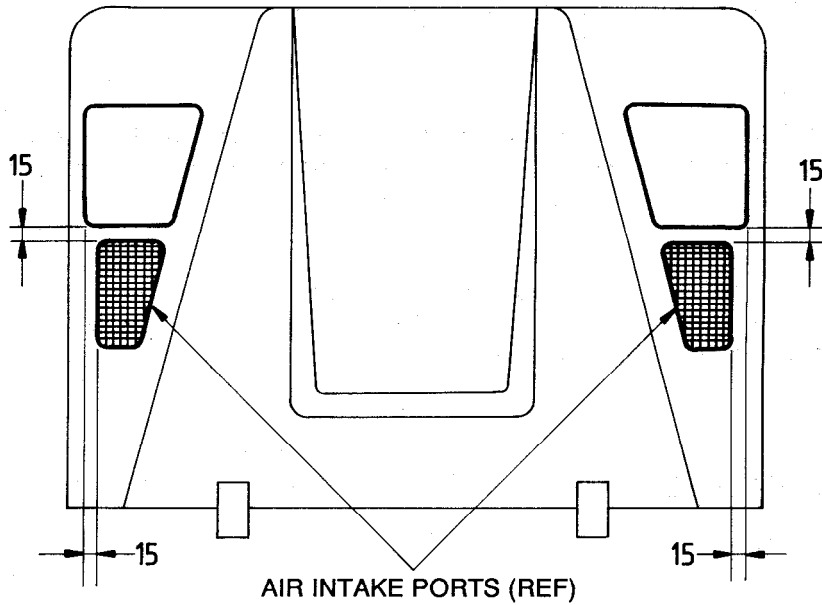
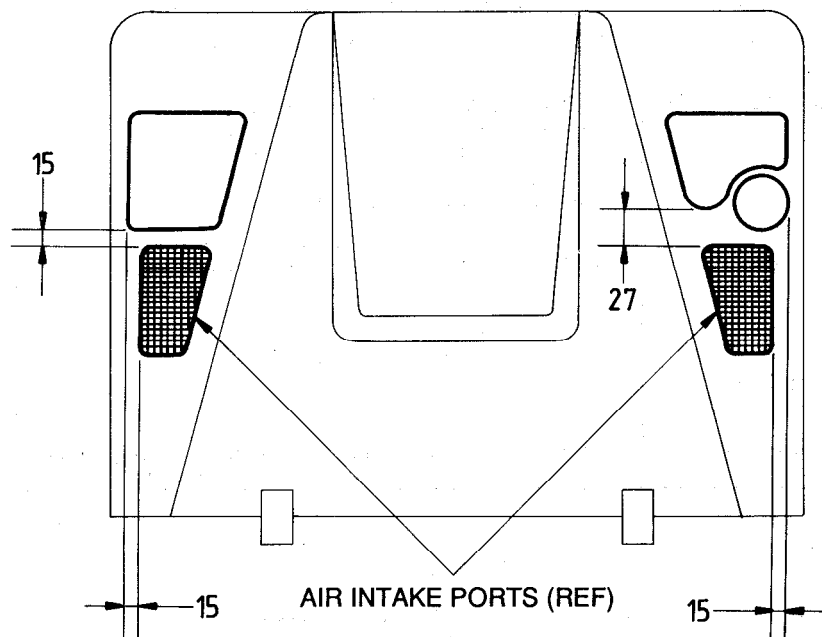

FIG 1 - MUDGUARD REINFORCEMENT PLATE MOUNTING 4 X 4 VARIANTS
FIG 2 - MUDGUARD REINFORCEMENT PLATE MOUNTING 6 X 6 VARIANTS
- b. Position the mudguard reinforcement plates with the non slip face upwards, as shown in Fig 1 for 4 x 4 variants and Fig 2 for 6 x 6 variants, then mark the position of the rivet holes and a outline of the plates on the guard.